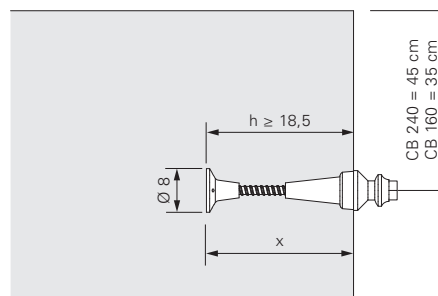

Fig. B1.05
1. Completely insert screw-on cone (5.1) into the threaded anchor plate DW 20 (5.2). (Fig. B1.05)